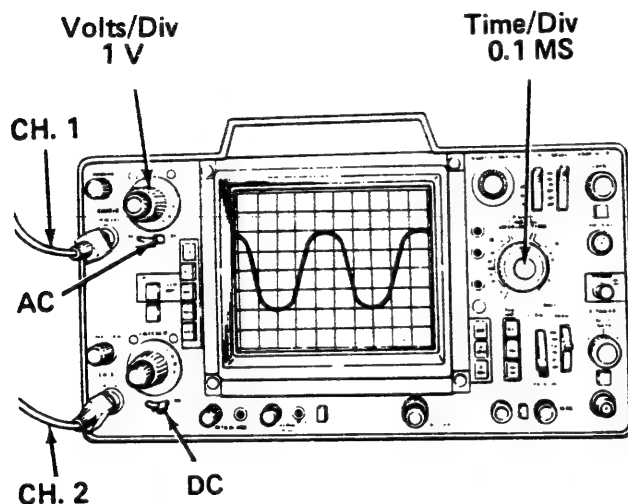

Figure 3-4C
7. Set the Oscilloscope controls as shown in Figure 3-4C.